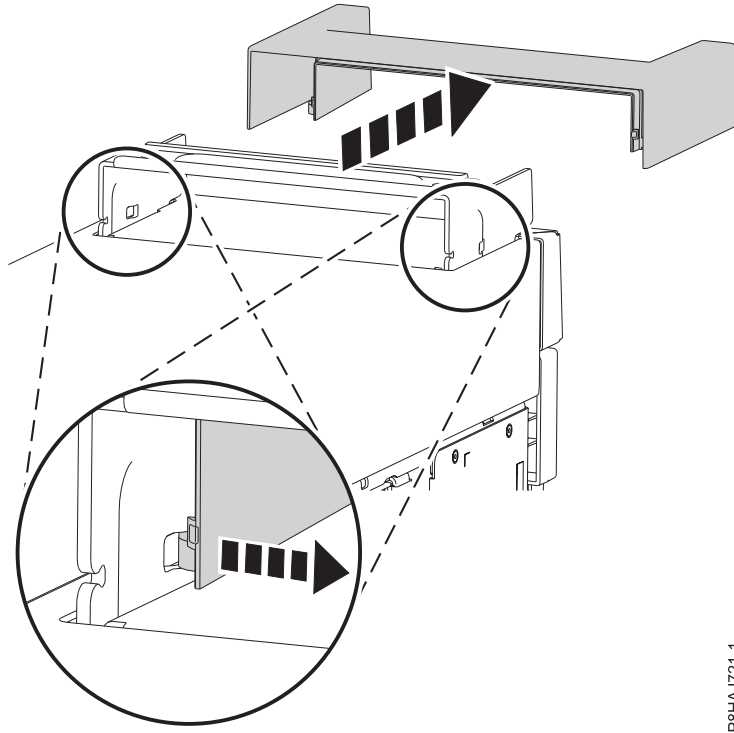

Figure 24. Removing the handle cover from an 8286-41A stand-alone system
3. Remove the handle cover by sliding it toward the front of the system then lifting upwards. See Figure 24 on page 41.